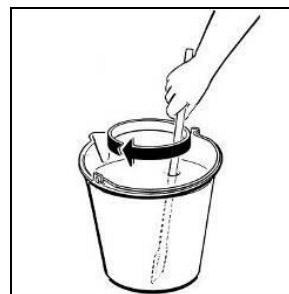

Fig. 23
- Dilute and mix the product in a separate container according to the manufacturer's instructions (see fig.23).